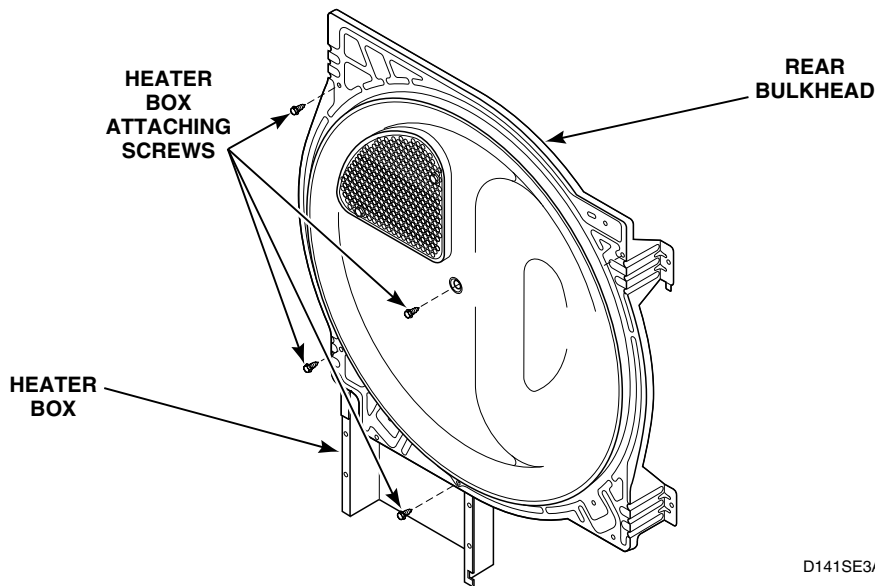

Figure 50
- n. To remove heater box from rear bulkhead, refer to *Figure 50*.